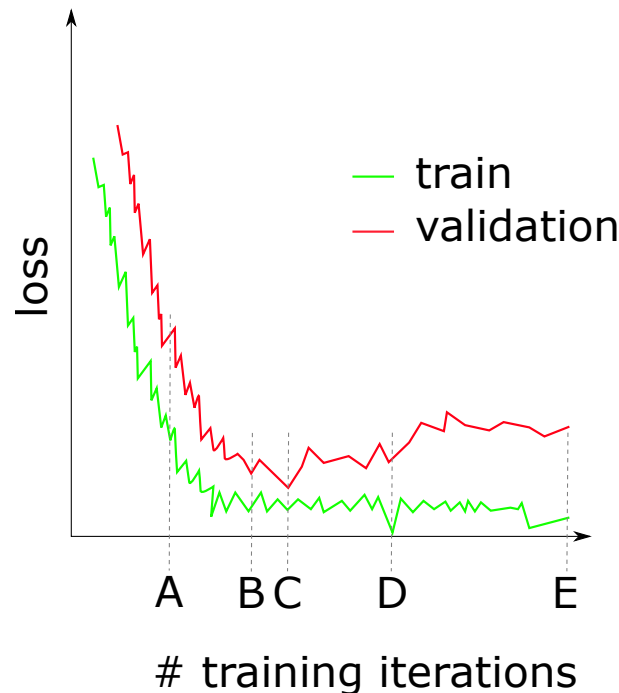

Figure 2: Loss curves during the training of a model
- e. You train a model that produces the training and validation loss curves as shown in Figure 2. For each of the marked points (A/B/C/D) during the training process describe how you